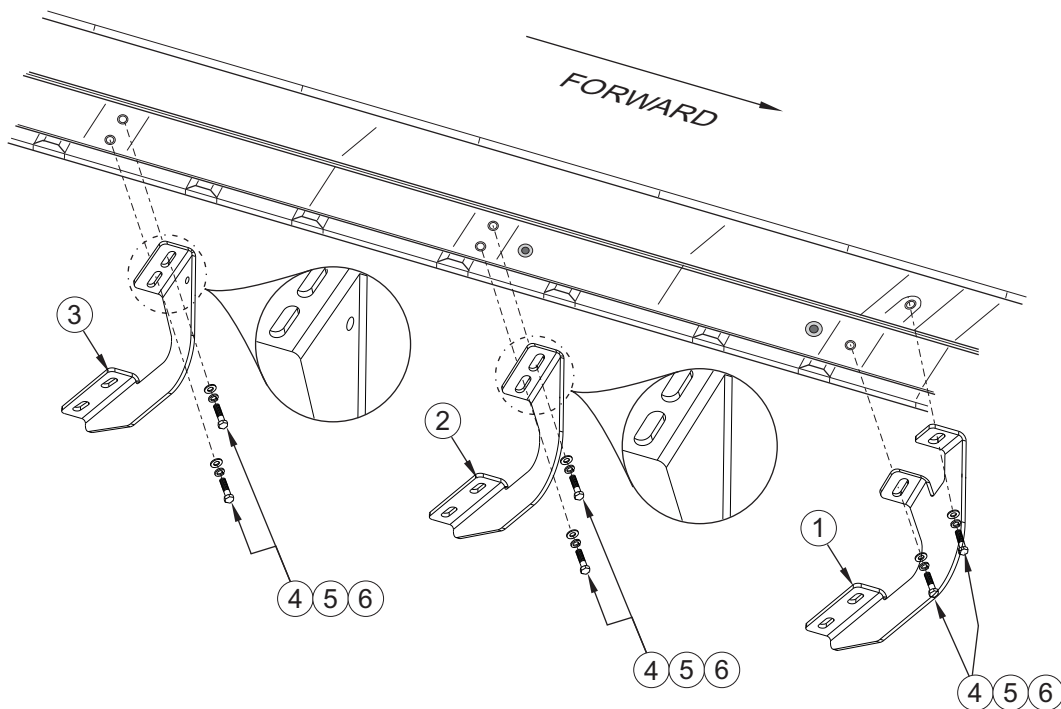

FIGURE 1 INSTALLATION VIEW OF DRIVER SIDE SHOWN, PASSENGER SIDE OPPOSITE
- STEP 2. Determine front, center, rear brackets. Rear bracket has 1 identification hole. SEE FIGURE 1.
- STEP 3. Attach drivers side brackets to underside of body panel using two M8-1.25 x 30mm hex head bolts, M8 flat washers, and M8 lock washers per bracket. Hand tighten. SEE FIGURE 1.